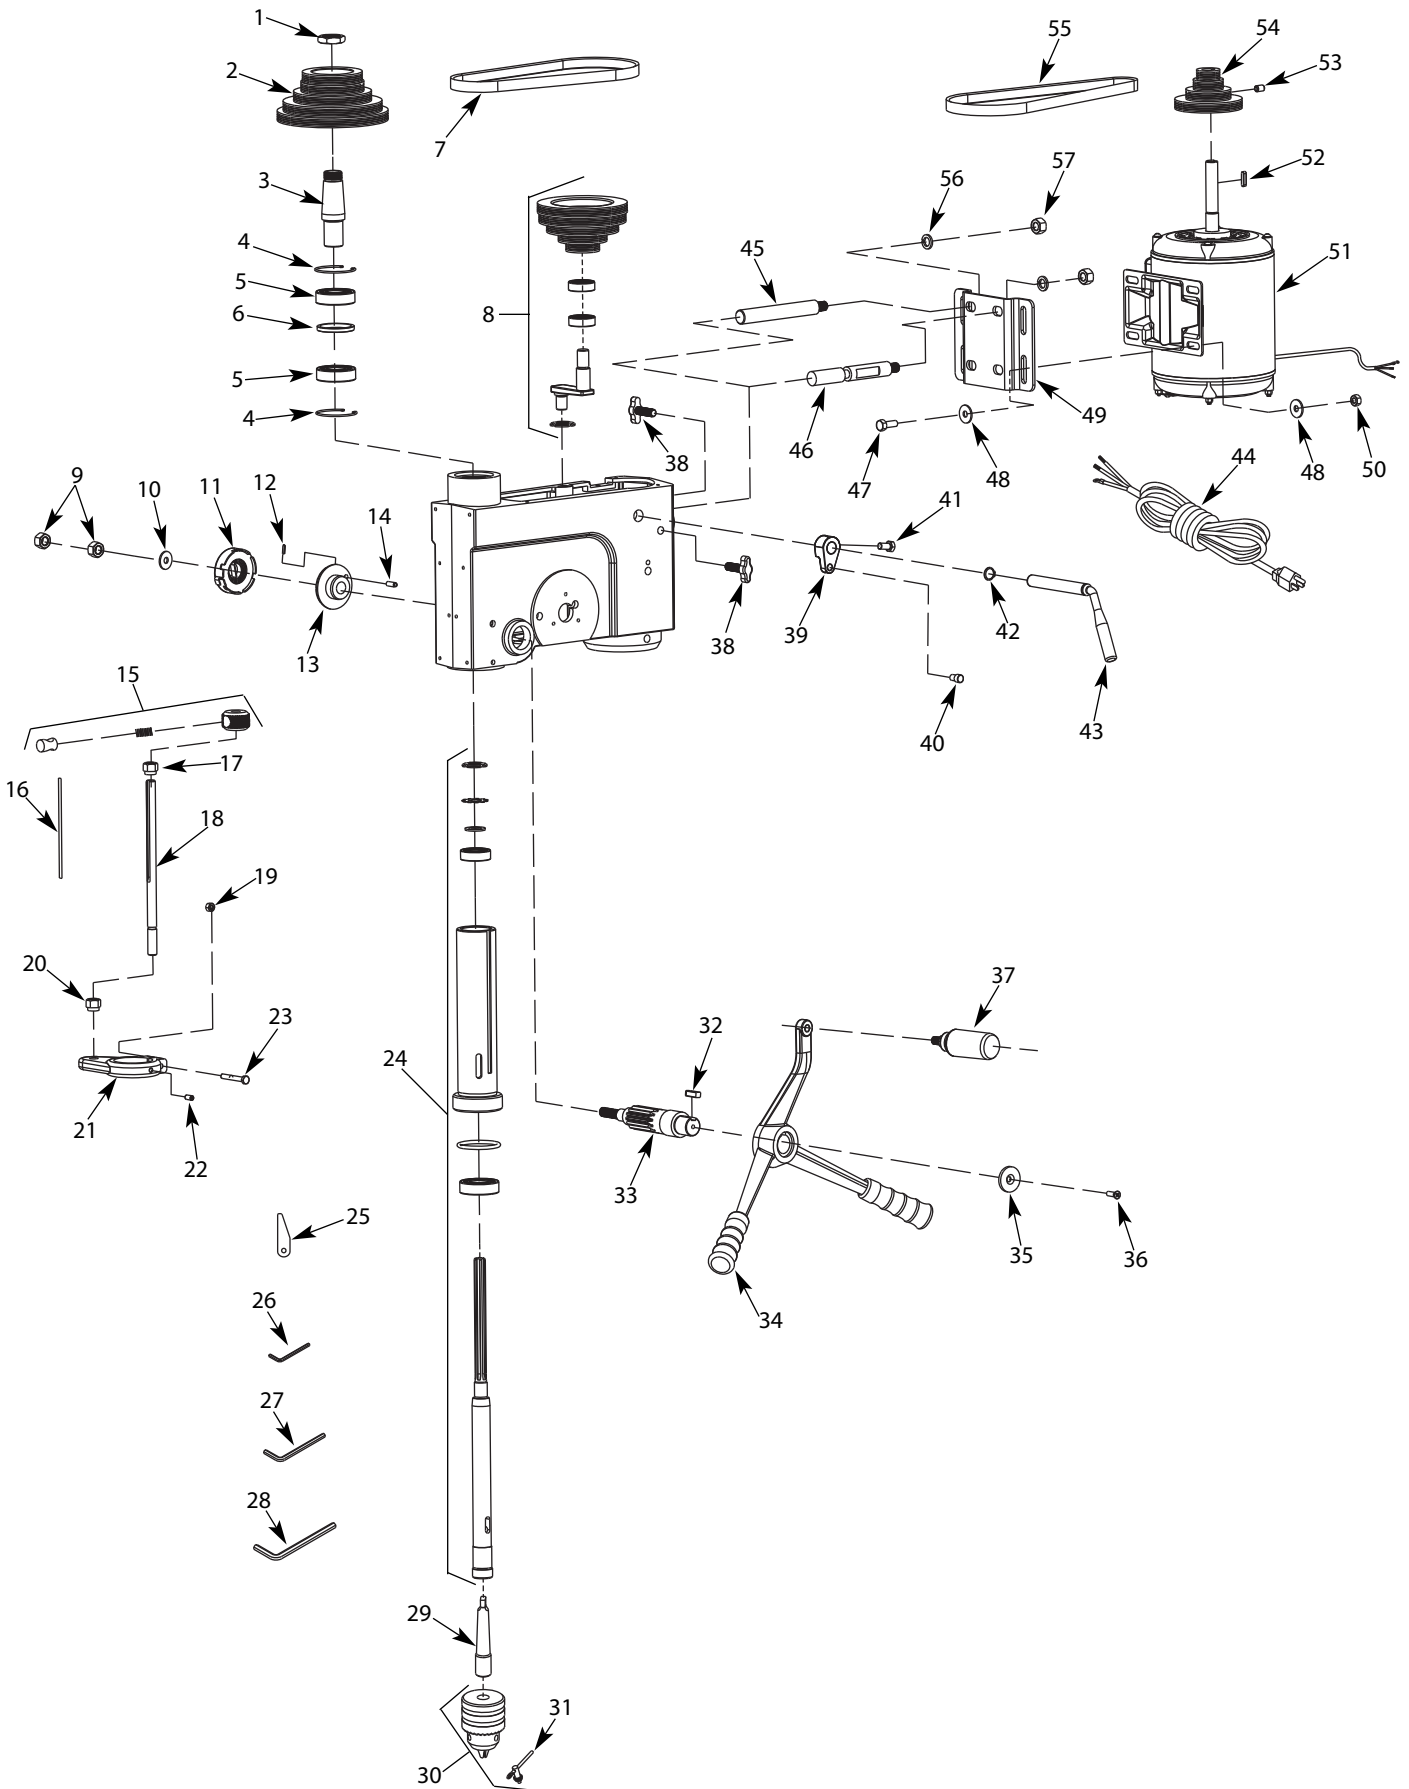

Figure 8 - Replacement Parts Illustration for Spindle and Drive
Refer to Figure 8.
Refer to Figures 8 and 9.
- Rotate quill feed handle (Fig. 8, Ref. No. 34) until slot is exposed in the side of the quill (Fig. 8, Ref. No. 24). Lock quill in position using handle (Fig. 9, Ref. No. 30).
- Insert the drift key (Fig. 8, Ref. No. 25) into the slots and tap lightly with hammer. The arbor and chuck will drop from spindle.
- Lower quill assembly (Figure 8, Ref. No. 24) all the way down.
- Apply lubricant around the inside of the hole in the spindle pulley (Figure 8, Ref. No. 2).
- Apply lubricant to rack (teeth) on quill (Figure 8, Ref. No. 24) while extended below drill press head.